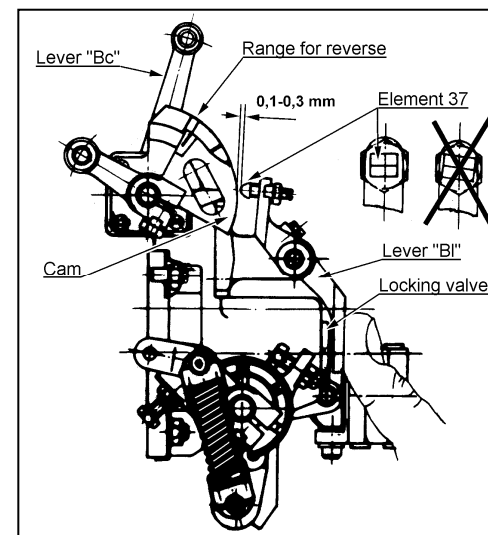

FIGURE 12-15
- (3) Loosen rod "Sv" 65 fix to the governor to don't obstruct at following works.
- (4) Move engine condition lever in aircraft cockpit into reverse position. Governor lever "Bc" thus moves to position as shown in figure 12-15 (guideline at the lever aligns with reverse range at governor scale).
- (5) Press fully the blocking valve with hand and measure clearance in between the cam and setting element 37 on the lever "Bl" with feeler gauge. Specified clearance is 0,1-0,3 mm (.004 to .012 inch), as displayed in figure 12-15.
- (6) If the clearance is not correct, adjust it:
- (b) Adjust the axial clearance by turning element 37 and set it into position according to figure 12-15.
- (7) Lubricate the cam travel with Aeroshell Grease 5, 6, or 22.
- (8) Move the engine condition lever in aircraft cockpit from reverse position back to minimum flight pitch.
- (9) Ručním přestavením listů vysuňte beta kroužek z vrtulové hlavy a pomocí vhodného přípravku zajistěte ve vzdálenosti 4,5 mm (.177 palce) od náboje. Táhlo "Sv" 65 zasuněte vidlicí na kulisu "Sv" a do vidlice vložte čep tak, aby procházel otvorem kulisy.